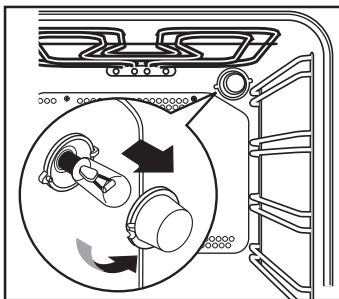

Fig. 8
2. Push in and turn the glass cover anticlockwise (Fig. 8).